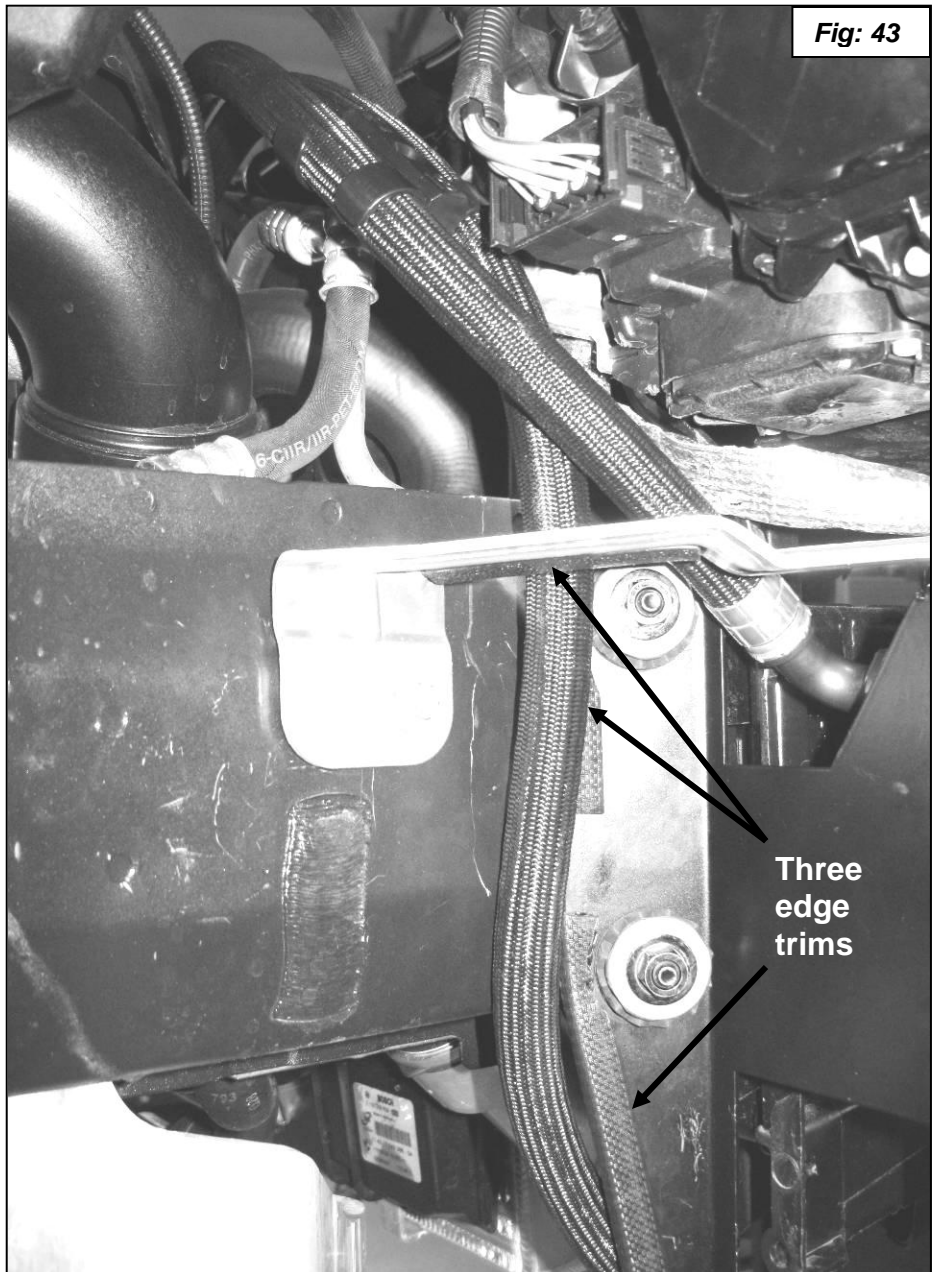

Fig: 43
32. Refer to **figure 43** to see where to install three pieces of edge trim to protect the oil lines where they would otherwise rub on sharp edges. Proceed to the next step before mounting the Cooler Assy.
33. Route the oil line as shown in **figure 43**. Attach the Oil Cooler Assembly to the car as shown previously with the two stock 8mm nuts and the 6mm bolt. Torque nuts to 20Nm (15ft-lbs.) and bolt to 8Nm (6ft-lbs.).